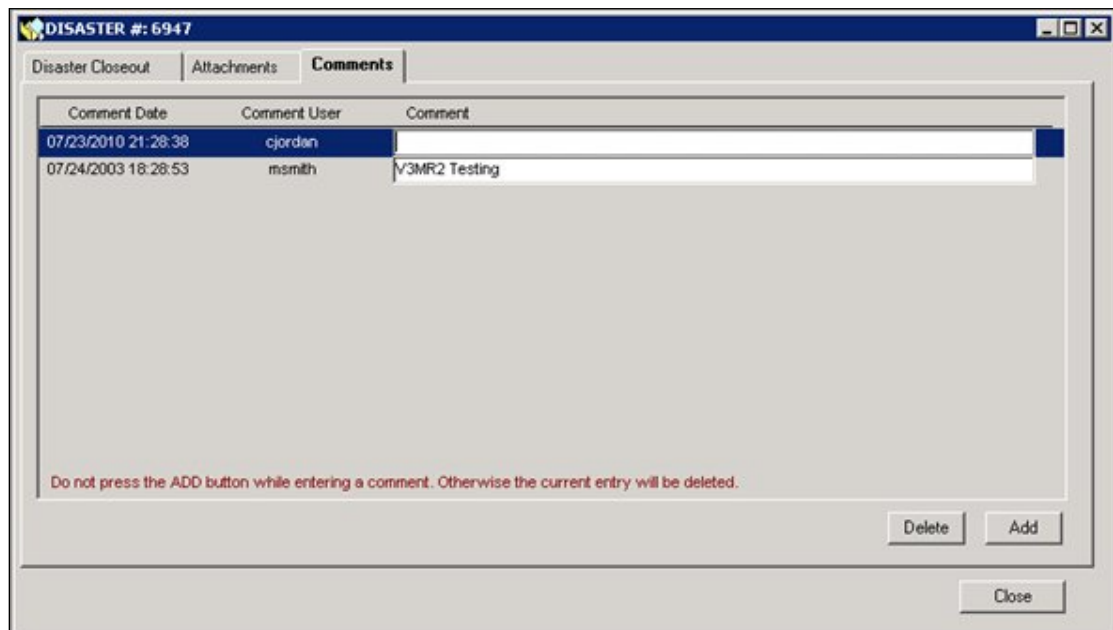

Figure 13-10: New Row for Comments
12. Click the ADD button. A new row for comments is added. The system auto-fills the Comment Date, Time, and User Name (Figure 13-10).